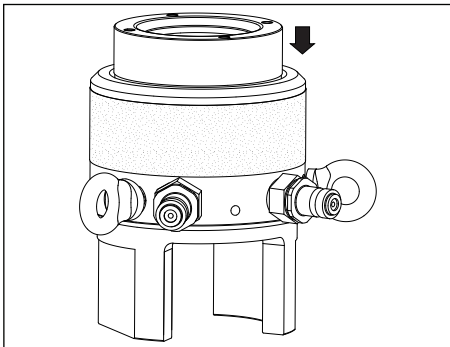

FIGURE 7, FULLY RETRACT PISTON
1. Ensure that all pistons are fully retracted, i.e. pistons flush with the top of the body. See Figure 7.